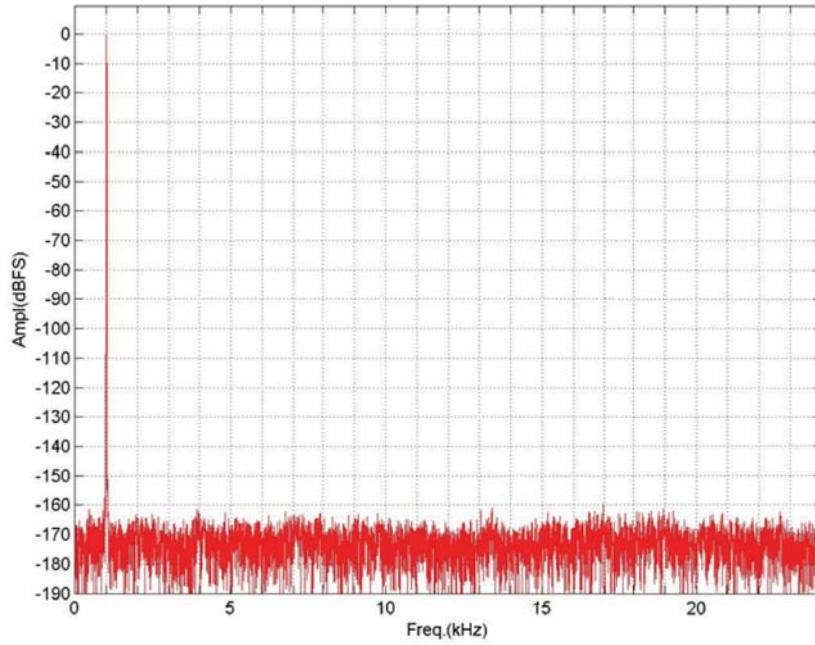
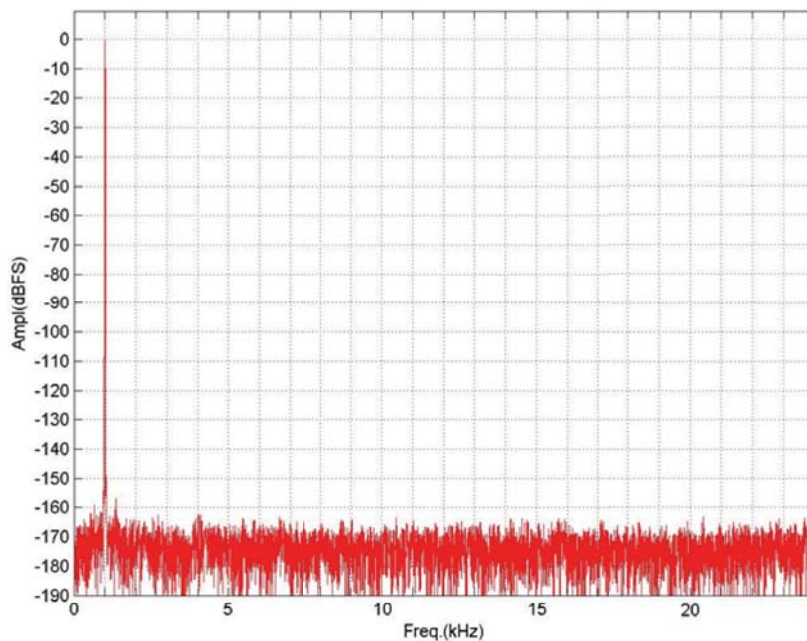
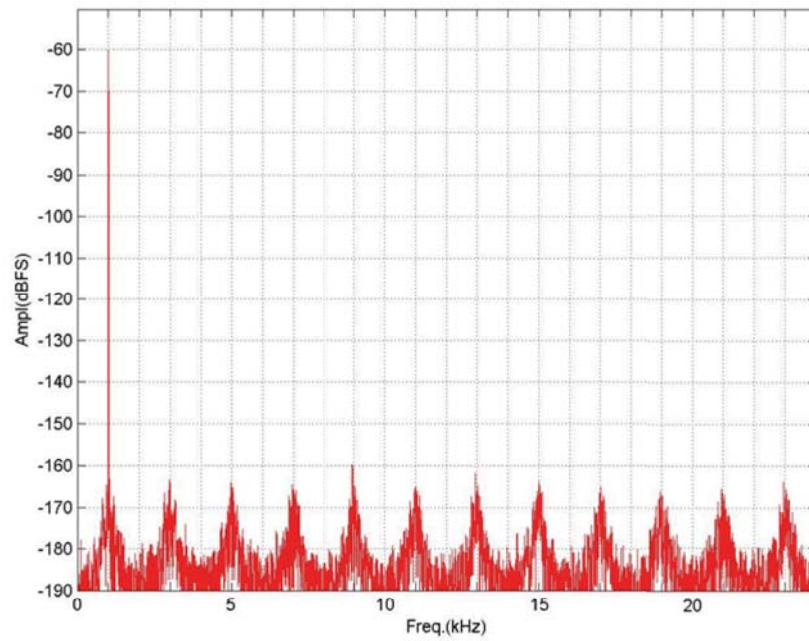
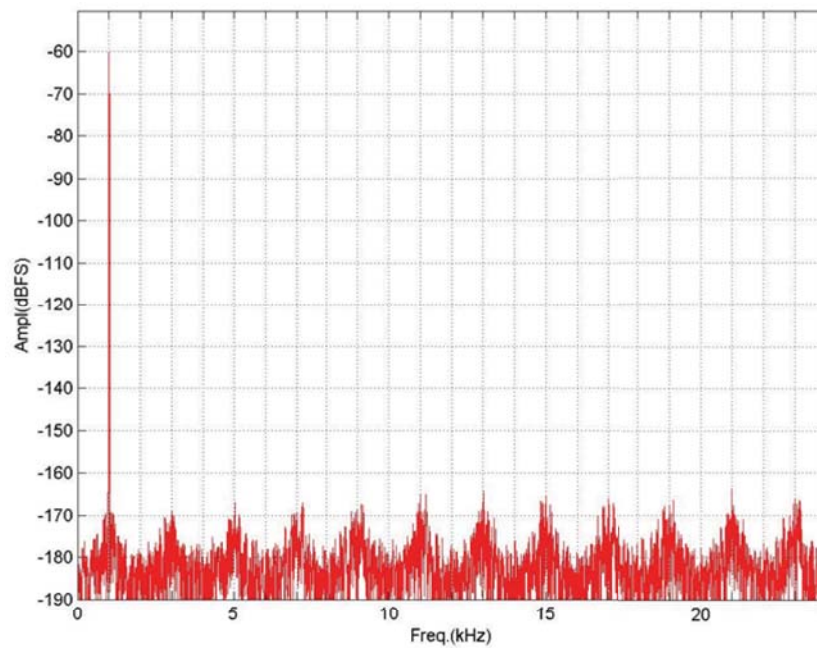

Figure 2. Wideband FFT Plot (0 dBFS 1 kHz Tone, 48 kHz:48 kHz)
Figure 7. Wideband FFT Plot (0 dBFS 1 kHz Tone, 192 kHz:48 kHz)
Figure 8. Wideband FFT Plot (-60 dBFS 1 kHz Tone, 48 kHz:48 kHz)
Figure 13. Wideband FFT Plot (-60 dBFS 1 kHz Tone, 192 kHz:48 kHz)
Figure 2 through Figure 13 show the frequency spectrum of measured signals on the ASRC output after conversion. Sample rates are denoted as “input sample rate:output sample rate” in the title under each figure.
The input signal is 1 kHz sine wave at two amplitude levels - 0 dB (Figure 2 to Figure 7) and - 60 dB (Figure 8 to Figure 13).
- Input sample rate equals the output sample rate—for example, 48 kHz: 48 kHz. This mode is used to eliminate the inaccuracy and jitter of input and output clocks. For example, in Figure 2 the signal to noise ratio is better than 160 dB ($1 / 100,000,000$),
- Input sample rate to output sample rate ratio is a whole number. For example, 192 kHz: 48 kHz (4:1) in Figure 7.